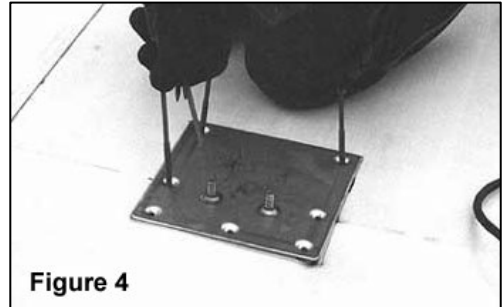

Figure 4
- D. Place the base plate on top of the finished membrane roof so that the seven fastener holes line up with the centers of the seven ferrules. The holes in the base plate will lock into the ferrules when the ferrules are positioned properly. **(Figure 4)**